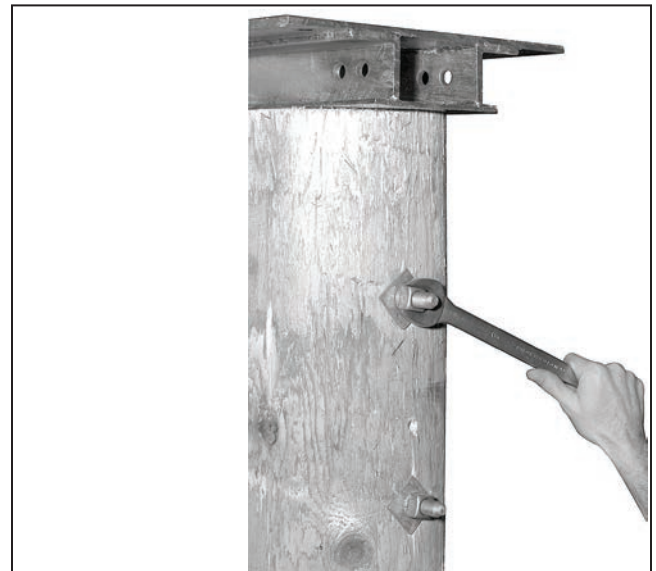

Figure 11. Tighten through-bolts.
**STEP 8.** Fully tighten the bolts. See Figure 11. Afterward, remove the lifting slings.